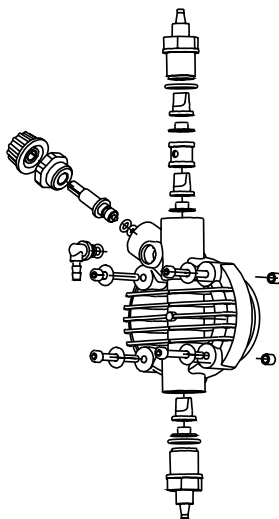

Fig. 11
- the additive concentration in the process plant; a reduction of this concentration could be caused by the wearing of the valves, in which case they need to be replaced (Fig. 11) or by the clogging of the filter which then has to be cleaned as in point 3 here below.
This operation can also be done with the pump disconnected from the plant by turning the pump upside-down for 15 to 30 seconds and without connecting the hose to the nipples; if impossible, dismount and remount the pump head (Fig. 11) using the four mounting screws.
Very rarely there may be losses caused by the breakage of the membrane, or by the membrane seals in which case they have to be replaced by disassembling the four screws of the pump head (fig. 11), when re-mounting the pump head ensure that the screws are replaced properly, along with "O" ring.
❶ - THE METERING PUMP GIVES PULSES BUT THE ADDITIVE IS NOT INJECTED
- a. Dismount the suction and discharge valves, clean them and replace, see position (fig. 11). Should the valves be swollen, check valves material against our chemical resistance compatibility chart and fit correct valves. Standard valves are Viton. Upon request Silicon, EPDM (Dutral), Nitril and valves, ball check valve, K valve can be supplied.